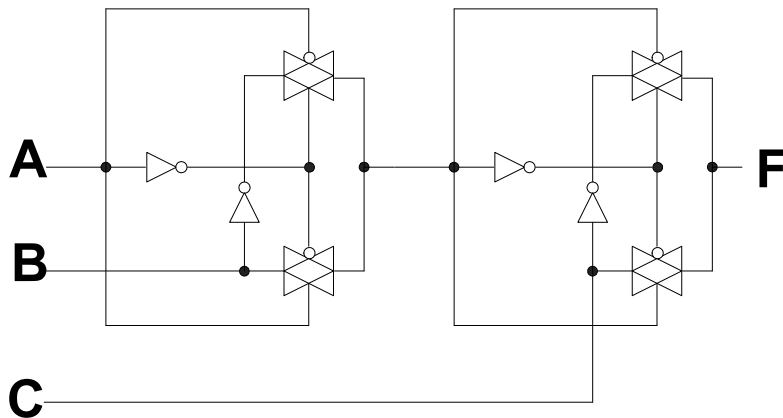

Figure 1 - CMOS circuit for question 1.
1. The complementary metal-oxide semiconductor (CMOS) circuit shown in Figure 1 is: